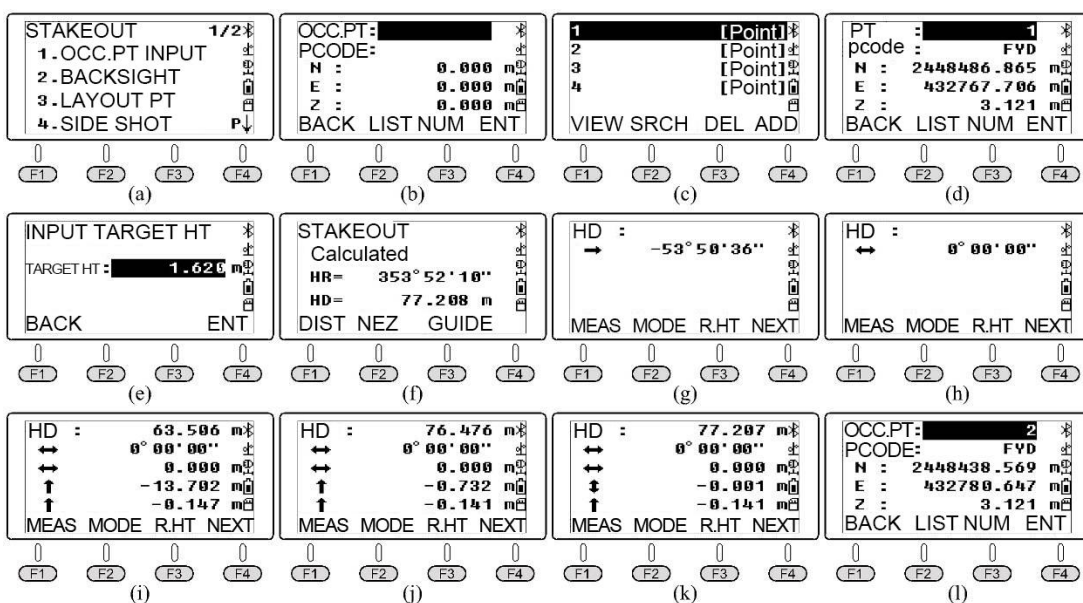
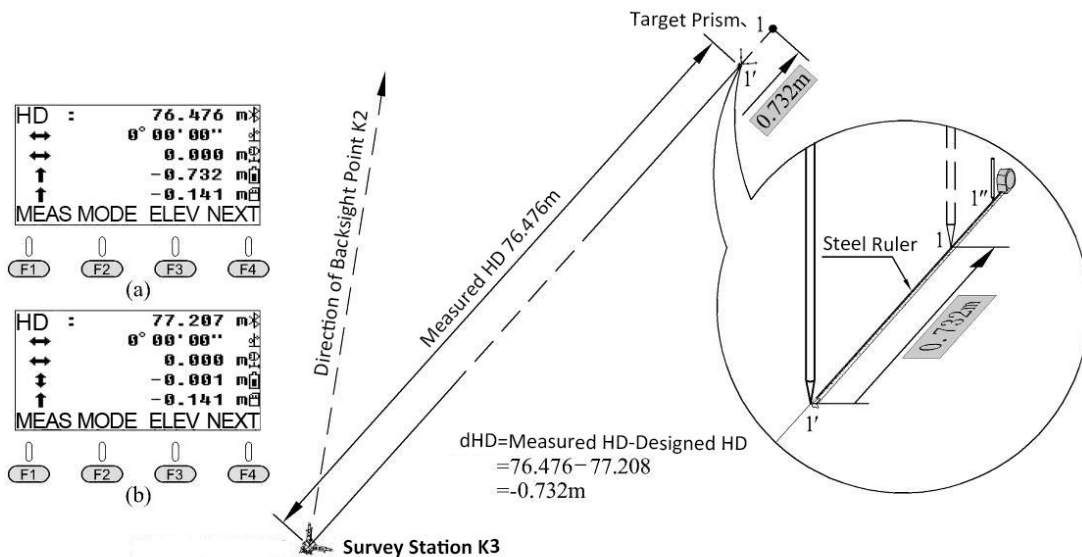

Figure 2-47 Execute the command “S.O/LAYOUT PT” to stake point 1
Figure 2-48 Relationship between dHD, difference of measured HD minus designed HD, and the moving direction of target prism
In the menu "Stakeout 1/2" [Figure 2-47(a)], press ③ (LAYOUT PT) to enter the interface as shown in Figure 2-47(b). Press F2 (LIST) to enter the interface of list for point names in the current file, and the cursor automatically locates at point 1 [Figure 2-47(c)]. Press ENT, and the screen displays the designed coordinates of point 1 [Figure 2-47(d)]. Press F4 (ENT), input the target height and press F4 (ENT). The screen will display the values of azimuth HR and stakeout horizontal distance HD from survey station K3 to Point 1 [Figure 2-47(f)]. Press F3 (GUIDE) to display the difference among the reading of the current horizontal plate, the designed azimuth, and the rotation direction of the alignment part [Figure 2-47(g)]. Rotate the alignment part according to the screen prompt to make the angle difference of the second line on the screen equal to 0°00'00" [Figure 2-47(h)]. Direct the prism to move to the alignment axis of the telescope and place the prism and centering rod. Point the telescope at the center of the prism and press F1 (DIST). The case results are shown in Figure 2-47(i).
Direct the prism to move about 13m away from the instrument. Place again the prism and centering pole. Tilt the telescope to aim at the center of the prism, and press F1 (Measure). The case result is shown in Figure 2-47(j). At this point, the distance to be moved is less than 5m. The prism should use a steel ruler to accurately measure the horizontal distance to be moved in
As shown in Figure 2-48, the current prism point is set as 1'. To move the prism to the designed position 1 accurately, prism can direct an orientation point 1" about 1m behind the current prism point 1', pull the steel tape from 1' to 1" to move the prism to the 0.732m mark on the steel ruler accurately and place the prism. Point the telescope at the center of the prism again and press (F1) (MEAS). The case result is shown in Figure 2-47(k). Currently, the plane position of the prism is the design position of Point 1. Mark the site to complete the stakeout of point 1, and press (F4) (Next) to call stakeout coordinates of point 2 [Figure 2-47(L)].